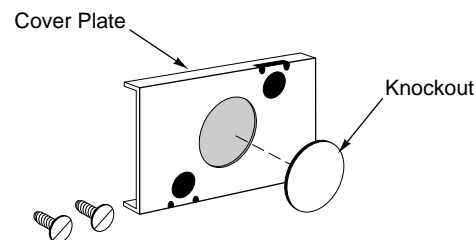

Figure-10 Cover Plate Knockout Removal.
1. Remove the knockout from the cover plate supplied with the actuator. Refer to Figure-10 .